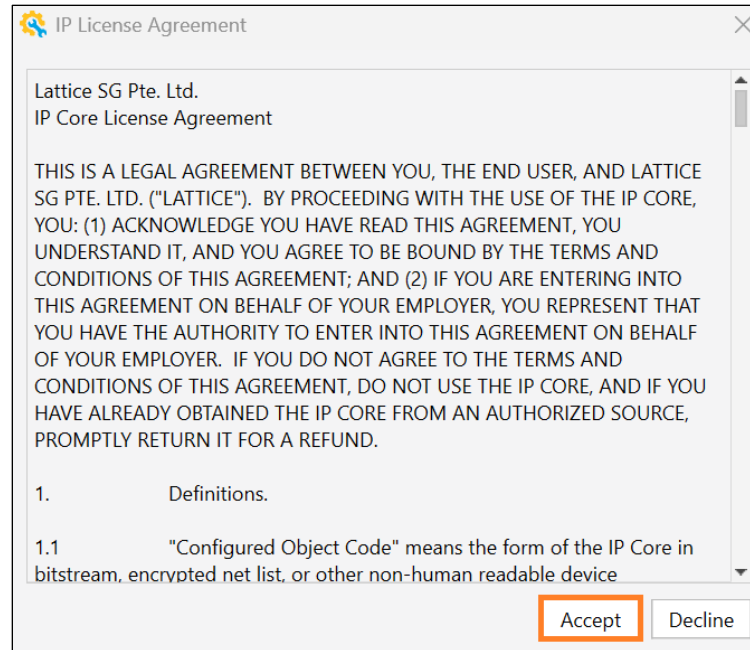

Figure 5.4. IP License Agreement
- d. In the **IP License Agreement** window, click **Accept** to finish the IP installation, as shown in Figure 5.4.